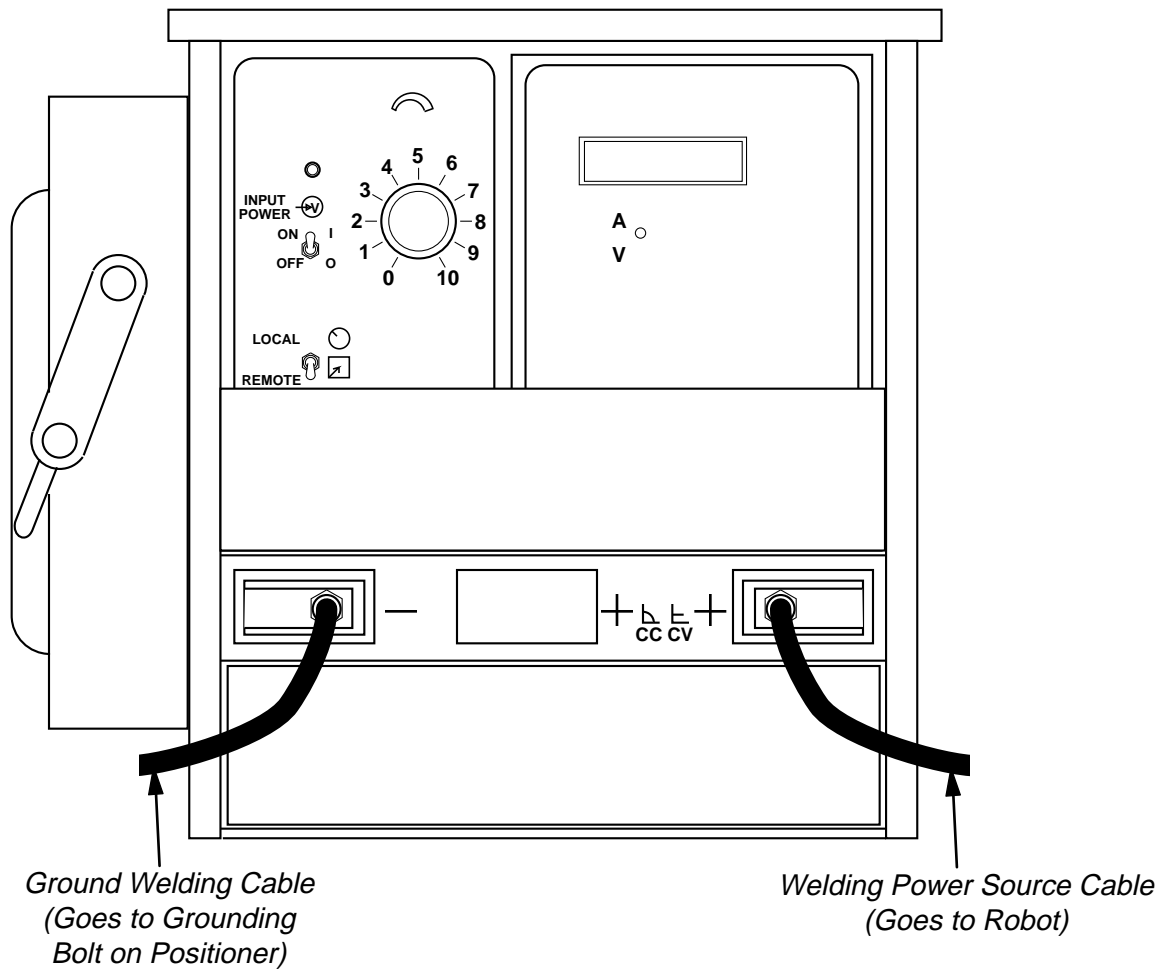

Figure 4-7 Positive and Negative Terminals on Welding Power Source
2. Connect the welding power source cable to the positive (+) terminal on the welding power source (see Figure 4-7).
4. Connect the other end of the ground welding cable to the negative (-) terminal on the welding power source (see Figure 4-7).